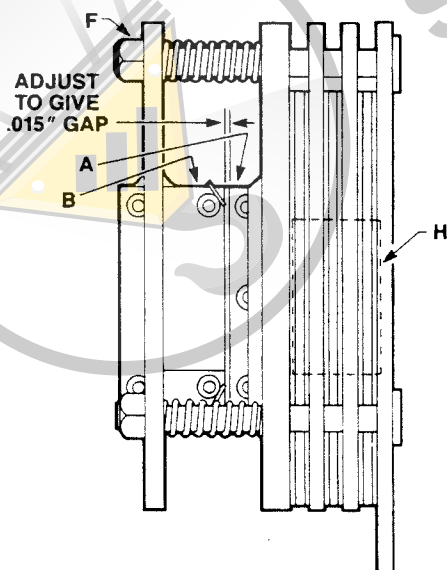

FIGURE 4-2. MOTOR BRAKE ADJUSTMENT
- Check the gap between brake armature (A, Figure 4-2) and field (B). The correct gap is 0.015 inch. Adjustment should not be necessary until gap reaches 0.050 inch unless brake chatter is experienced. See Section V.
- Adjust gap by adjusting the three lock nuts (F) and checking with a feeler gauge to be sure gap is the same on both ends of the solenoid.